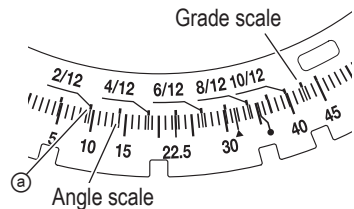

Fig. 31
- (1) Unlock the miter table by lifting up on the miter lock handle.
- (2) While lightly pressing down on the positive stop lever until it engages the detent lever, grasp the miter lock handle and rotate the table left or right to the desired angle.
- (3) Once the desired miter angle is achieved, press down on the miter lock handle to secure the table into position.
- (4) If the desired miter angle is one of the nine positive stops noted below, please see the Miter detent lever section on page 20.
- (5) Use the LED light and position the workpiece on the table for pre-alignment of your cut.
- (6) The miter scale (Fig. 31) indicates both the cutting angle on the angle scale and the gradient on the grade scale.
- (8) Therefore, to cut a workpiece at a grade of 2/12, set the indicator to position ② as indicated in Fig. 31.